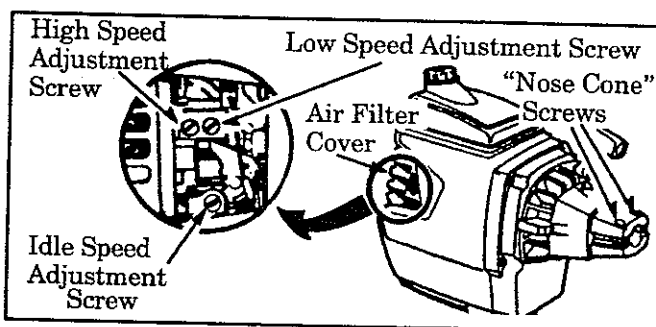

Figure 30
- a. Turn low speed mixture screw and high speed mixture screw (Figure 30) clockwise until they stop. *Do not turn screws until they are tight as damage to needle seats can occur.*
2. Adjust idle speed screw (Figure 30) until the engine continues to run without stalling and without the trimmer head moving.
- b.) **If the engine does not accelerate smoothly**, turn the low speed mixture screw (Figure 30) counterclockwise a small amount (no more than the width of the slot in the adjusting screw).
2. Turn the low speed mixture screw (Figure 30) slowly clockwise until the speed starts to drop. Note this position.
3. Turn the high speed mixture screw (Figure 30) very slowly clockwise until engine speed is reduced.